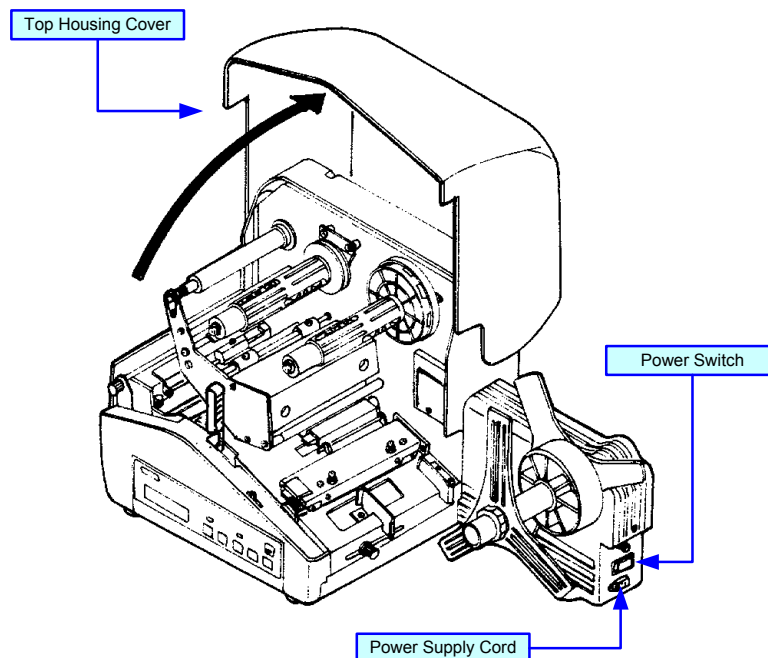

Figure 3-3a, Media Loading
- 1 Switch the printer power switch off and disconnect the power supply cord (**Figure 3-3a**).